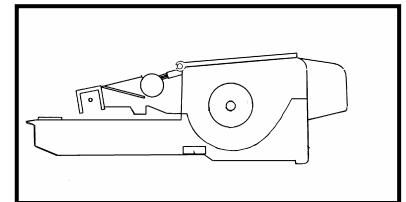

Figure 2
1. Remove the drain hole cover on the unused toner tank (Fig. 2). Open the toner collection shutter and vacuum the waster toner.